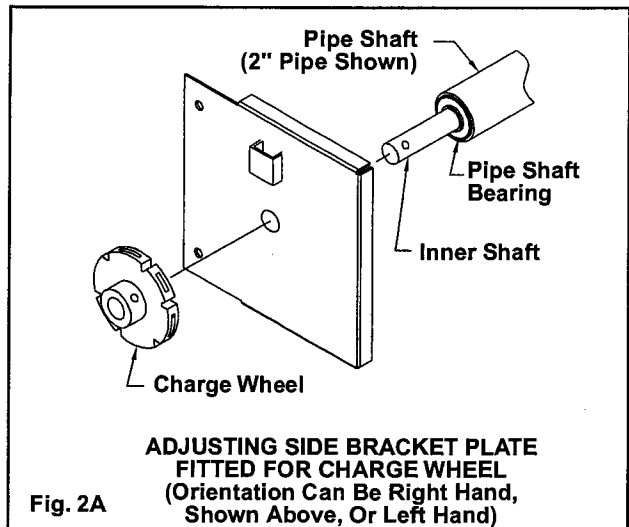
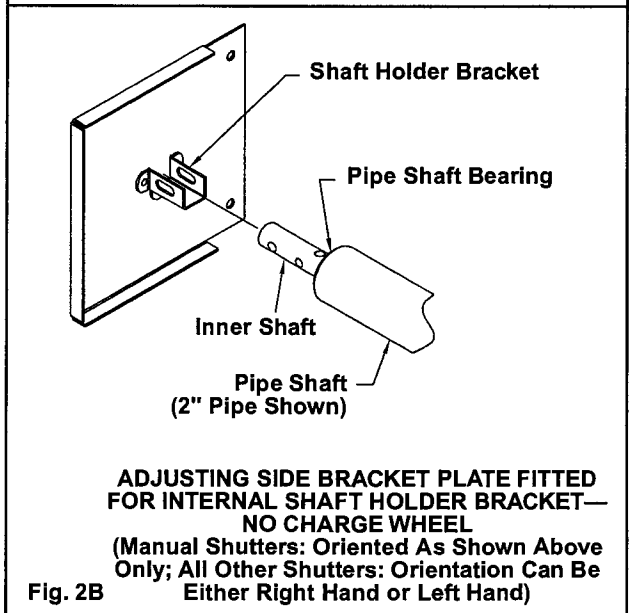

Fig. 2A
Fig. 2B
The adjusting bracket plate can be identified as the one fitted for an outside charge wheel. (FIG. 2A) If the charge wheel is not included, then the adjusting bracket plate will be fitted with an internal shaft holder bracket. (FIG. 2B)
The shaft hand should also be verified. The adjusting side of the shaft assembly is fitted with a rotating inner shaft and bearing. (FIG. 2A) If the shaft assembly is fitted with bearings on both ends, then the adjusting side is also fitted with two (2) holes located on the inner shaft, 90° apart. (FIG. 2B)
bracket plate is mounted to the correct "hand side". Reinstall the charge wheel onto the inner pipe shaft using the fasteners provided with the pipe shaft. (FIG. 2A)
Hoist the pipe shaft assembly into the shaft holder bracket(s) affixed to the bracket plate(s). The adjusting side (two holes located on the inner shaft, 90° apart) of the pipe shaft should be located in the shaft holder bracket per Figure 2B. **Do not insert bolts through shaft holder brackets at this time.** Position and bolt the drive side bracket plate (crank and motor operation only), level with the adjusting side bracket plate, to the inside of the wall angle using the bolts supplied. (FIG. 3)